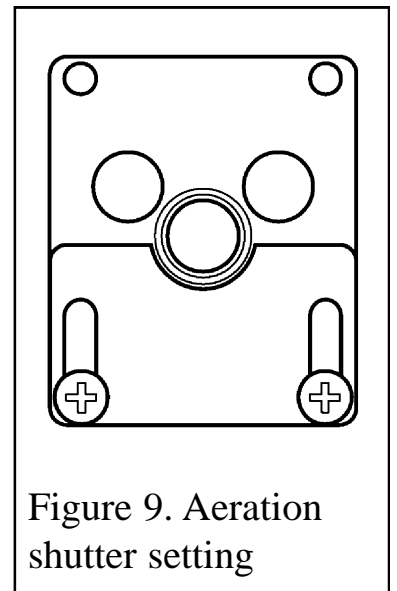

Figure 9. Aeration shutter setting
1. The aeration shutter is factory set. It is important to ensure that the aeration setting is correct. Check the aeration shutter setting (See figure 9).
2. To adjust the aeration setting, loosen the two aeration shutter screws, slide the aeration shutter to the position shown in figure 9 and tighten the fixing screws.